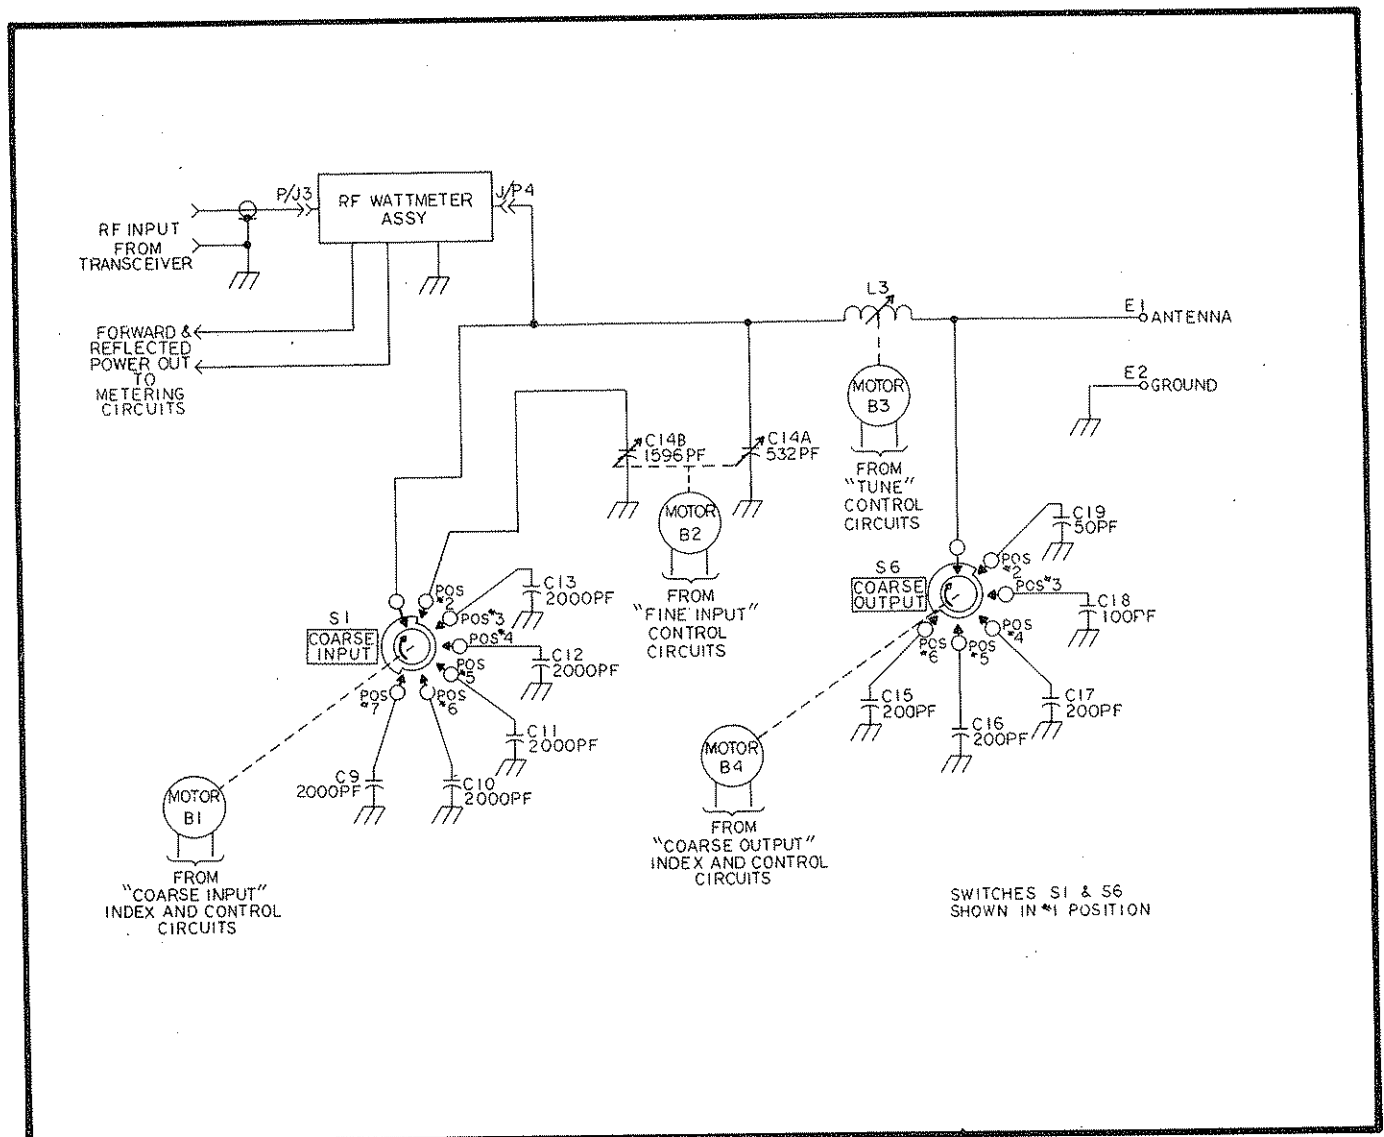

Figure 4.1 Simplified Schematic: RF Circuitry
matching of antennas with a wide range of impedances to the required 50 ohms. The tuning network consists of three elements, (1) input shunt capacitance (2) series inductance, (3) output shunt capacitance. A simplified schematic of the GCU-910 is shown in Figure 4.1 below.